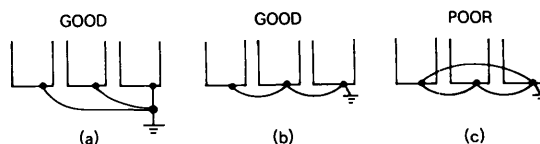

Fig. 7 Grounding of Three VS-616GII Units
- (1) Ground resistance should be  $100\ \Omega$  or less.
- (2) Never ground VS-616GII in common with welding machines, motors, and other large-current electrical equipment, or ground pole. Run the ground lead in a separate conduit from leads for large-current electrical equipment.
- (3) Use ground lead listed in Table 17 (page 52) and make the length as short as possible.
- (4) Where several VS-616GII units are used side by side, all the units should preferably be grounded directly to the ground poles. However, connecting all the ground terminals of VS-616GII in parallel, and ground only one of VS-616GII to the ground pole is also permissible (Fig. 7). However, do not form a loop with the ground leads.